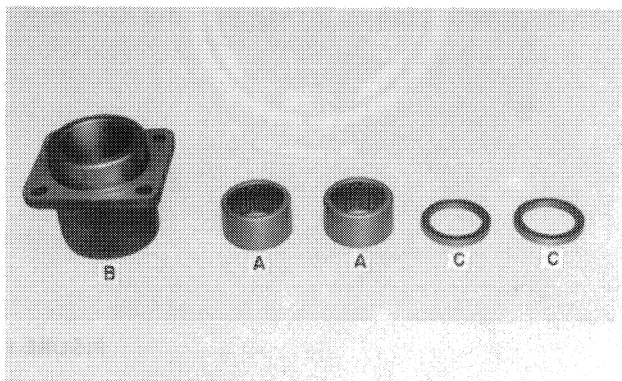
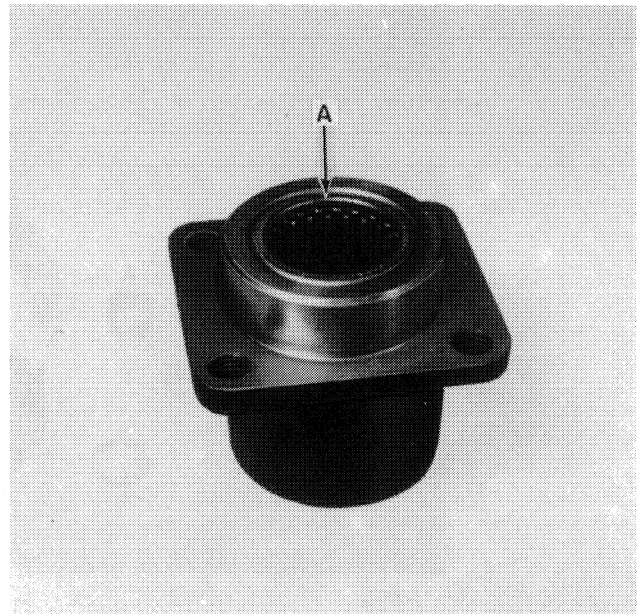

FIGURE 17
FIGURE 18
- Press the needle bearings, A, into shaft housing, B, Figure 17. Always press on the lettered side of the needle bearings as shown at A, Figure 18.
NOTE: Press the outer bearing past the outer edge of housing, B, Figure 17, by 13/32" (10.3 mm). This is to allow room for the seals to be pressed in. Press the two seals, C, in at the outer end of the housing. The inner seal must have the seal lip pointing in, and the outer seal must have the lip pointing out.